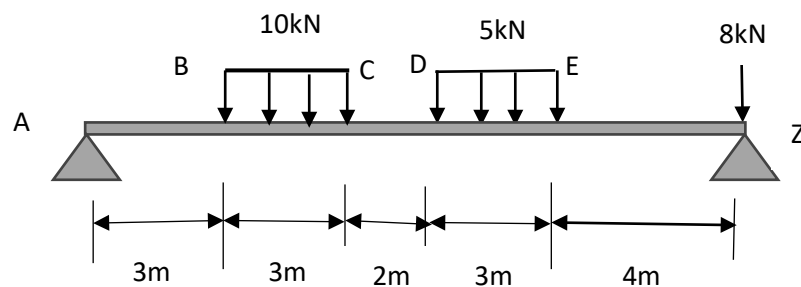

Figure 2 (b) / Rajah 2 (b)
- (b) A beam shown in **Figure 2 (b)** is subjected with uniform distributed load and concentrated load.
- c) Bending moment diagram is a graph that shows the reaction of the moment in the beam that can relate to the shear force based on **Figure 2 (b)**.